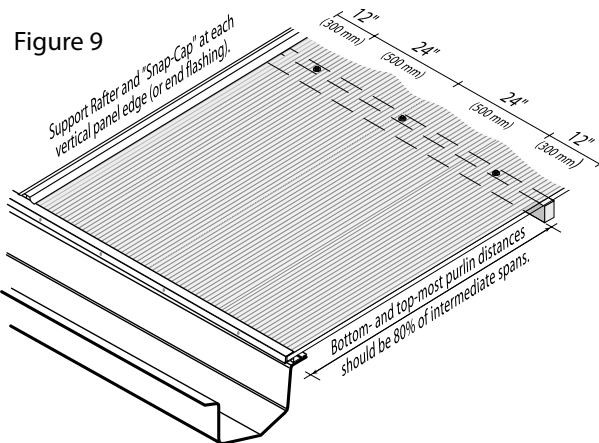

Figure 9
- The recommended maximum distance between the two top purlins and between the two bottom purlins is 900 mm (35") or the value dictated by the design engineer. (See Figure 9 on page 5).
3. The sheets have to be fastened to the purlins by fastening screws, inserted along the supporting purlins, spaced about 500 mm (20 in.) apart. (Fig. 9).
4. Along the edge purlin (or gutter), the fastening screws should be inserted about 300 mm (12 in.) apart. (Fig. 9).